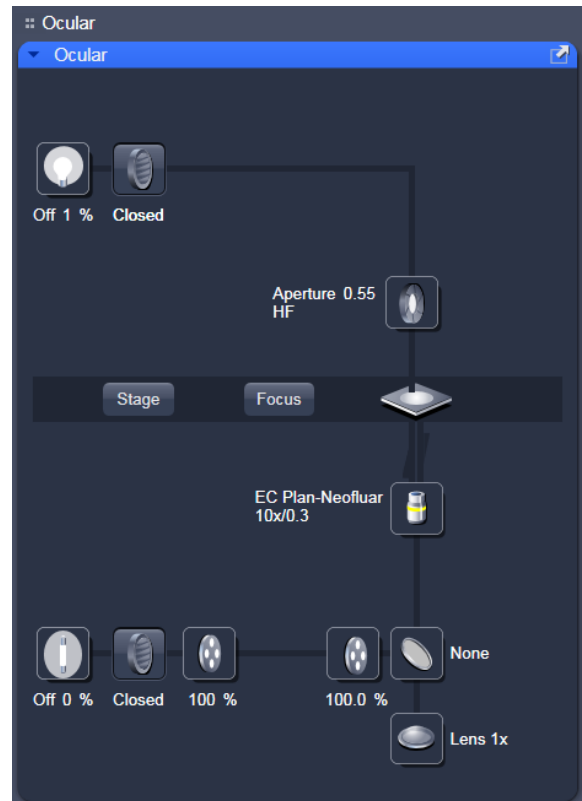

Fig. 11 Microscope Control window, e.g.: Axio Observer
Click on the **Ocular** tab for direct observation; press the **Online** button for your actions to take effect immediately. Then open the **Ocular** tool to configure the components of your microscope like filters, shutters or objectives (Fig. 11).
- Open the graphical pop-up menu by clicking on the **Objective** symbol and select the objective lens for your experiment (Fig. 11).